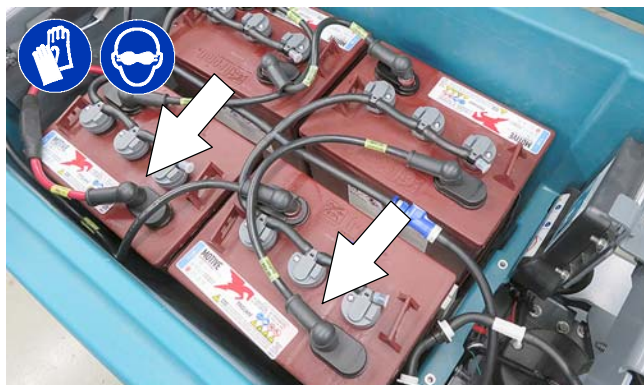

FIG. 122
1. Disconnect the battery cable connection at machine (Figure 122).